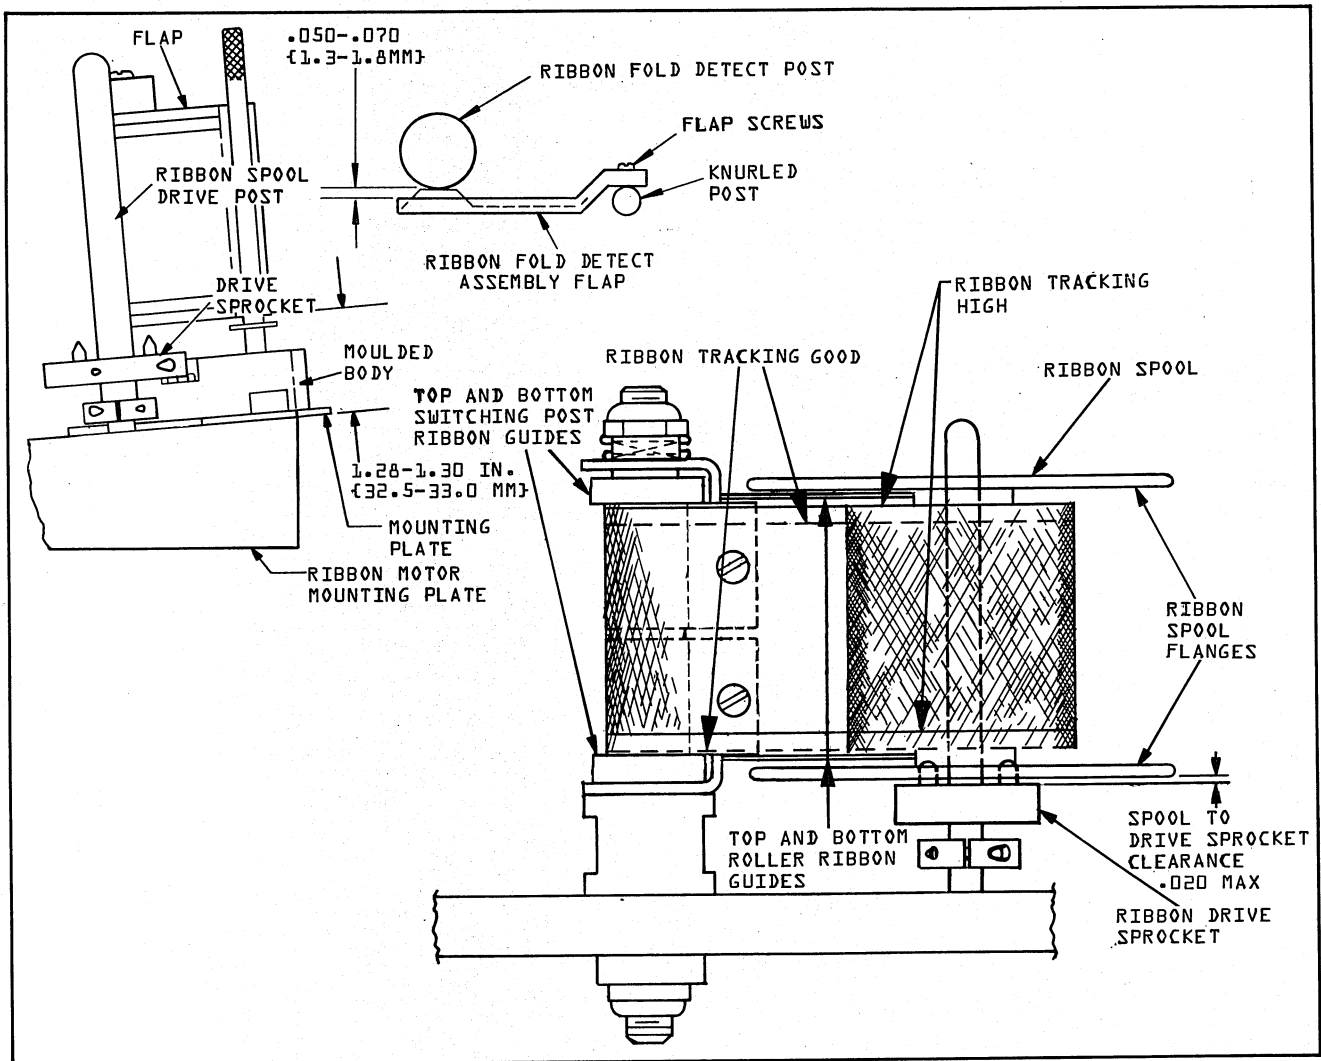

FIGURE 5-21E. TRACKING ADJUSTMENTS
9. Using a ruler check that the bottom of the ribbon fold detect assembly flap is 1.28 to 1.30 in. (32.5 to 33.0 mm) above the top of the ribbon motor mounting plate. See Figure 5-21E.
10. Loosen the two mounting screws on the flap and move the flap up or down as required. See Figure 5-21E.
11. Use feeler gauges to check that the gap between the ribbon detect assembly flap and the ribbon fold detect post is .050 to .070 in. (1.3 mm to 1.8 mm) with the pivot mechanism in the locked closed position. To adjust, remove the assembly from the printer. Remove the moulded body from the mounting plate. Loosen the screw at the bottom of the knurled post. Insert .060 in. (1.52mm) feeler gauge in between and tighten the screw at the bottom of the knurled post. Recheck and reassemble and mount on the printer (see Figure 5-21E).
ing of the guide roller on the ribbon spool requires the drive sprocket below the ribbon spool be lowered. The top surface of the lower ribbon guide on the switching post must be in line (flush) with or up to 0.005 inch (0.127mm) above the top surface of the bottom roller ribbon guide. The ribbon spool is allowed to ride up off its drive sprocket by 0.020 inch (.508mm) as long as the rollers do not bind or hang up entering the ribbon spool during ribbon operation (see Figure 5-21E).